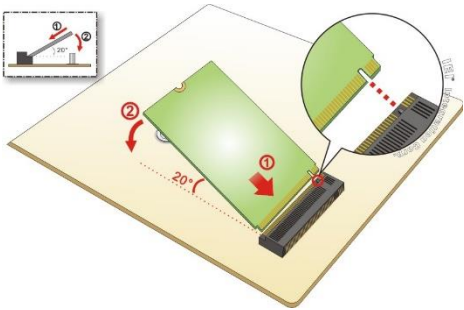

Figure 3-6: Insert the WLAN Module
Step 3: Line up the notch on the WLAN module with the notch on the slot. Slide the WLAN module into the slot at an angle of about 20° (**Figure 3-6**).